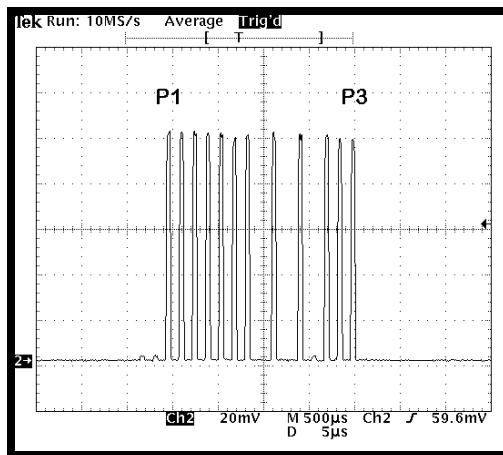

Figure 3-4. Altitude-Coded Pulses
6. Altitude coded pulses shall appear between the P1 and P3 pulses as viewed on the oscilloscope and shown in Figure 3-4. _____ **OK**